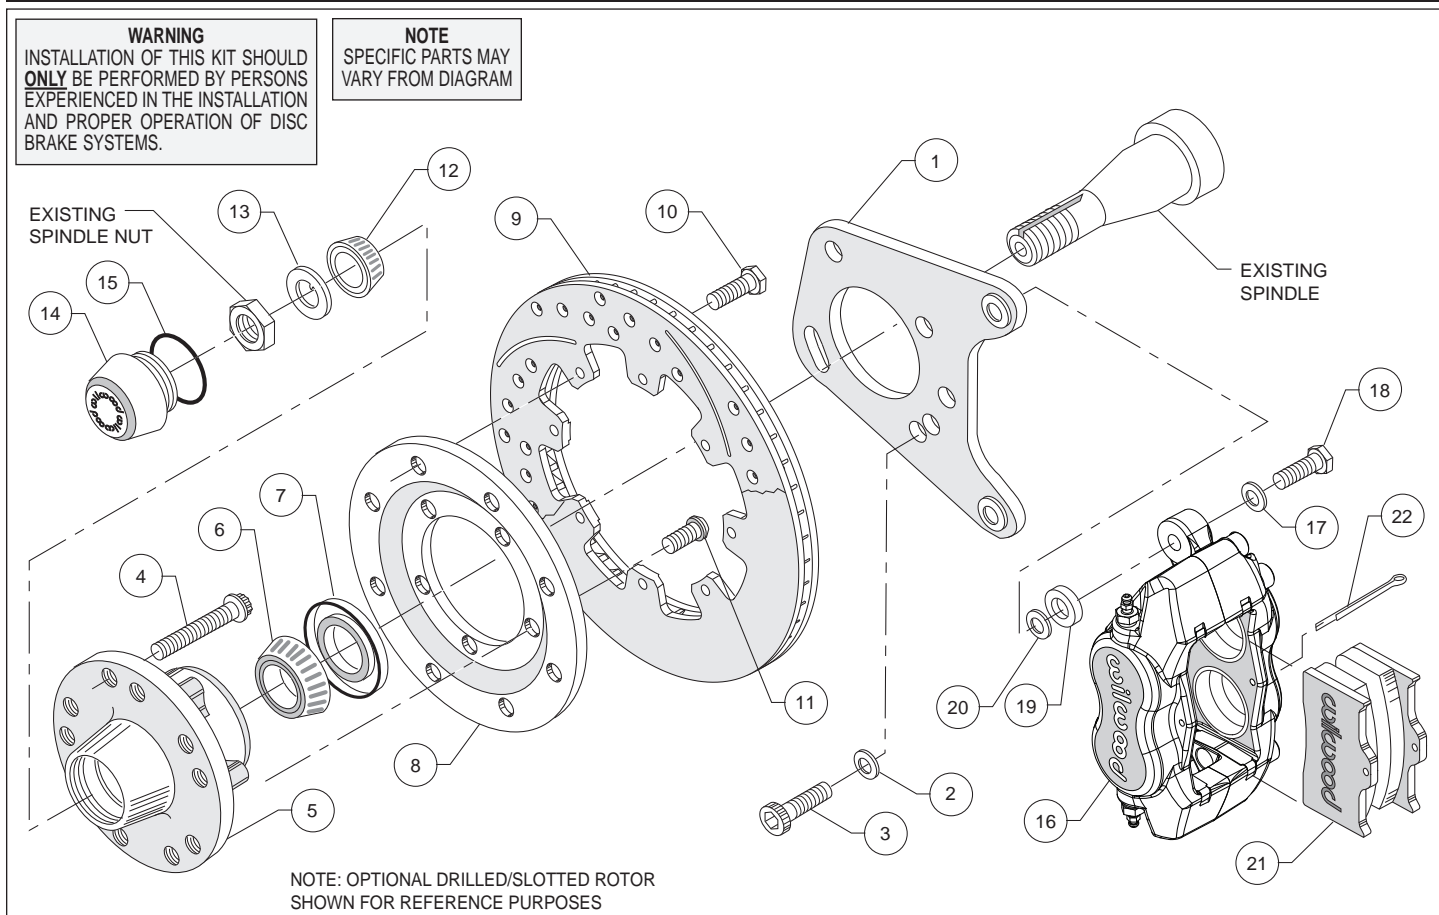
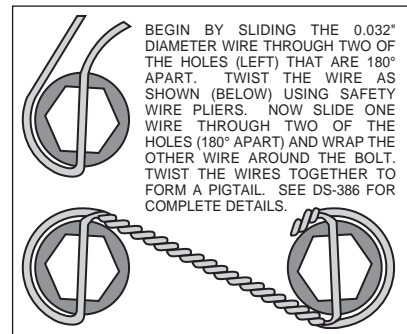
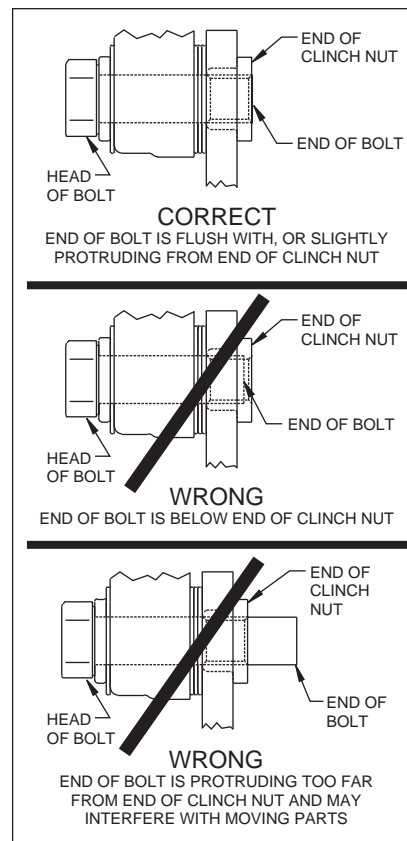

Figure 1. Typical Installation Configuration
Figure 3. Safety Wire Diagram
Figure 4.
•Position the caliper mounting bracket (1) on the spindle. **NOTE:** Be sure the heads of the caliper bracket (1) insert nuts are facing outward toward the wheel. Place one washer (2) on each of the three caliper bracket bolts (3). Mount bracket to the dust plate face of the spindle and align the three 3/8-16 holes in the spindle with the corresponding holes in the bracket (1). Apply red *Loctite*® 271 to all three bolt threads (3) and install. Torque bolts (3) to 22 ft-lb.
•Install wheel studs (4) into the hub (5). Torque to 77 ft-lb. **NOTE:** There are two lug patterns of five holes each in the hub (5 x 4.50 and 5 x 4.75). Make sure of the correct hole pattern for the wheel application before installing the studs into the hub.
•Attach rotor adapter plate (8) to rotor (9) using bolts (10). **NOTE:** Dished side of adapter plate (8) should face hub (5). The mounting tabs on the rotor (9) should face toward the hub as well and line up with the holes on the adapter plate (8), Figure 1. Using an alternating sequence, apply red *Loctite*® 271 to the threads and torque bolts to 25 ft-lb. For an added measure of security, the bolts may be safety wired using standard 0.032 inch diameter stainless steel safety wire as shown in Figure 3. Please refer to Wilwood's data sheet DS-386 (available at www.wilwood.com/Pdf/DataSheets/ds386.pdf) for complete safety wire installation instructions.
•Mount the adapter/rotor assembly (8/9) to the hub (5) using bolts (11), as shown in Figure 1. Using an alternating sequence, apply red *Loctite*® 271 to the threads, and torque to 45 ft-lb.
•Pack the large inner bearing cone (6) with high temperature disc brake bearing grease (available from your local auto parts store) and install into the backside of the hub (5).
•Install the grease seal (7) by pressing into the backside of the hub (5).
•Pack the small outer bearing cone (12) with high temperature disc brake bearing grease and install into front of hub (5). Slide the hub assembly (5, 6, 7 and 9) with outer bearing cone (12) onto the spindle. Secure using spindle washer (13), stock adjusting nut and nut locking device. Adjust bearings per Original Equipment Manufacturer (OEM) specifications.
•Install the o-ring (15) and the dust cap (14) onto the hub (5). Friction created by the o-ring (15) on the dust cap (14) keeps it from unscrewing on its own.
•**NOTE:** Please reference the caution statement at the beginning of the assembly instructions. Mount the caliper (16) onto the caliper bracket (1) using washers (17), bolts (18) and caliper spacer (19). Finger tighten. View the rotor (9) through the top opening of the caliper (16). The rotor (9) should be aligned in the center of the caliper (16). If not, adjust the caliper (16) by using 0.032 inch thick shims (20) placed between the caliper mounting bracket (1) and the caliper spacer (19). Finger tighten and recheck alignment. Add as many shim washers (20) as necessary to achieve the correct alignment. **NOTE:** The end of the bolt must be flush with or slightly protruding from the head of the clinch nut. See Figure 4. Place spare shims (20) between washer and caliper mounting ear to achieve the proper mounting fastener configuration. Always use the same amount of shims on both the top and bottom caliper mounting bolts (18). Apply red *Loctite*® 271 to bolt threads (18) and torque to 40 ft-lb. Caliper mount bolts may be safety wired for additional security.
•Install the disc brake pads (21) and secure using cotter pin (22).